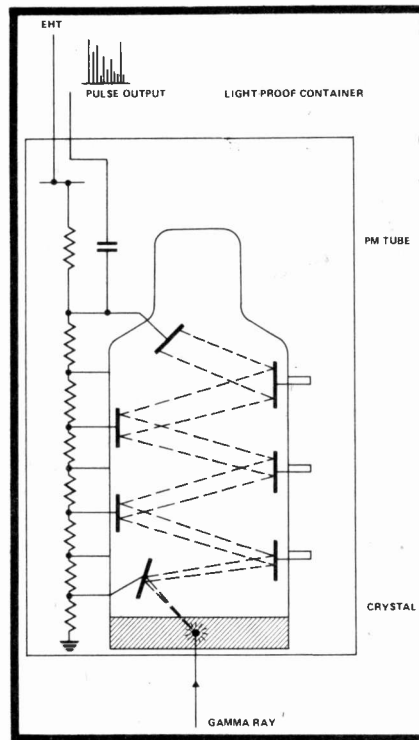

Fig. 1. Scintillation Detector Head.
The scintillations are amplified in a photo-multiplier (PM) tube which is in direct contact with the crystal. This assembly is then mounted in a light proof container. The process of amplification begins when photons emitted during a scintillation strike the photo-cathode and displace a quantity of electrons. Due to the voltage arrangement of the PM tube between these cathodes these electrons are drawn to the next cathode in the tube where they displace a greater number of electrons. In turn these strike the next cathode and so on up the cathode chain until the output appears as a voltage pulse at the anode. The combination of crystal and PM tube is termed a detector head and is shown in Fig. 1.